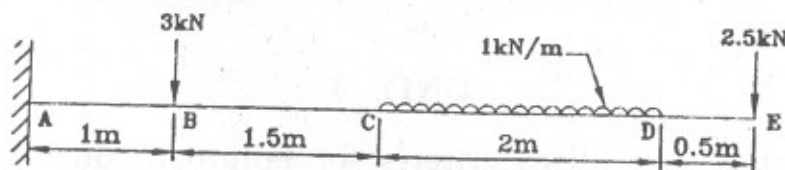

Fig. 2
- (c) Draw shear force and bending moment diagrams for the cantilever shown in Fig. 2 [10]